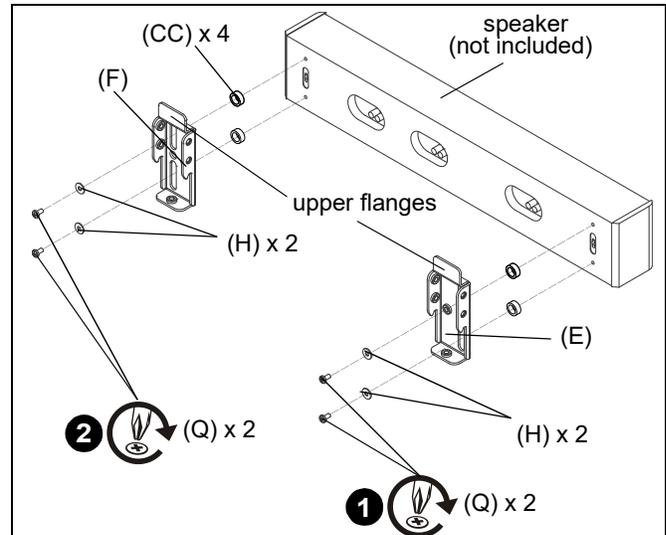

Figure 13
1. Attach left speaker interface (E) to back of speaker (left side) using two 1/4-20 x 1/2" Phillips pan head screws (Q), two large washers (H) and (optional) two dampening rubber washers (CC). (See Figure 13)
**NOTE:** Ensure that upper flange of interface brackets are at top of speaker. (See Figure 13)
2. Repeat Steps 1 with right speaker interface (F). (See Figure 13)